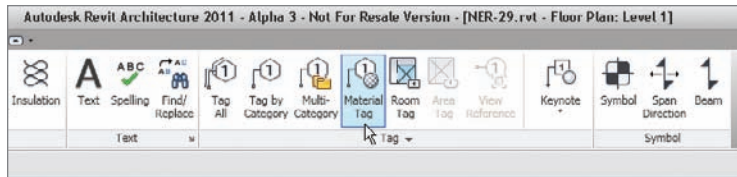

FIGURE 11.70 The Material Tag button on the Tag panel
3. On the Tag panel of the Annotate tab, click the Material Tag button, as shown in Figure 11.70.